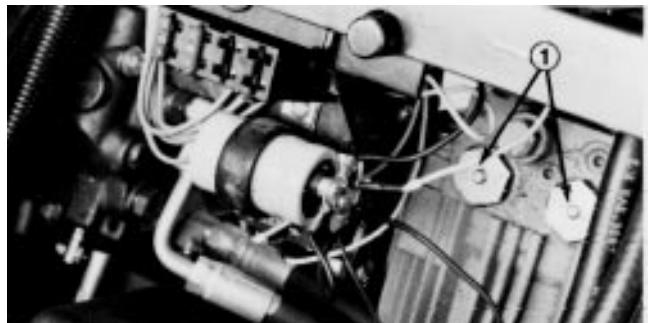

Figure 23
2. Depress and hold the pins located in the center of the two (2) check valve assemblies in the top of the transmission (Fig. 23) while pushing or towing the machine.
Apply a liberal coating of grease to the check valve pins once each year (Fig. 23). Also grease the bearings in the rear axle every 500 hours, or yearly, whichever comes first (not shown). The traction unit has bearings and bushings that must be lubricated, and these lubrication points are: PTO universal shaft (Fig. 24); lift arm pivot bushings (Fig. 25), front PTO bearing (Fig. 25); brake pivot bushings (Fig. 26); rear wheel spindle bushings (Fig. 27); steering plate bushings (Fig. 28); axle pin bushing (Fig. 28) PTO tension pivot (Fig. 29) and rear PTO bearing (Fig. 29). Also apply